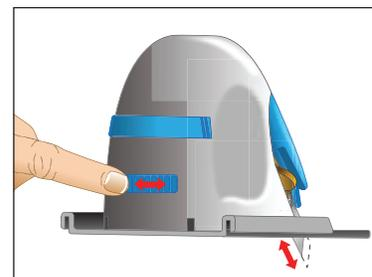

Fig. 4
- 1 The blade can be raised or lowered by turning the Blade Adjustment Knob found on the back side of the Cutter (**Fig. 4**).
- 4 With the blades positioned off the top edge of the foamboard, push the **Cutting Head** downward. With **Cutting Head** fully depressed, pull the V-Groove Cutter backwards along the Channel Rail and continue along the length of the foamboard (**Fig. 4**).
- 4 Before setting down the cutter, stand the Circle Cutter on its side. With one hand on the **Hand Grip Ridges**, turn the cutting knob in a counterclockwise position until the blade returns to the highest position (**Fig. 4**).